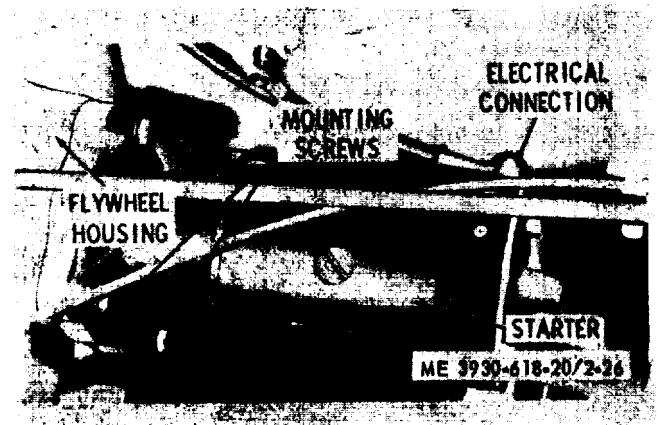

Figure 2-26. Starter motor. installed view.
a. *Removal.* Refer to figure 2-26 and remove the starter motor as follows :
(1) Remove the operator's seat and the side panel.
(2) Disconnect and tag all electrical leads from the starter motor.
(3) Remove the bolts securing the starter motor to the flywheel housing.
(4) Withdraw the starter motor from the flywheel housing until the drive end clears the flywheel housing. Then tilt the commutator end-up and remove the starter motor.